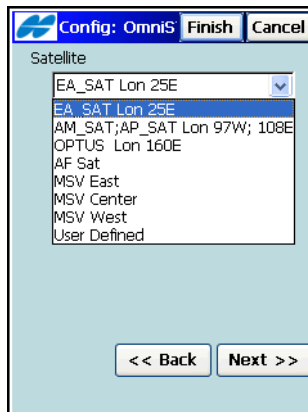

Figure 4-54. Config: OmniSTAR
- For OmniSTAR-VBS and OmniSTAR-HP (a wide-area, satellite delivered, differential Virtual Base Station and High Performance GPS services), select the name of the satellite to be used (Figure 4-54).